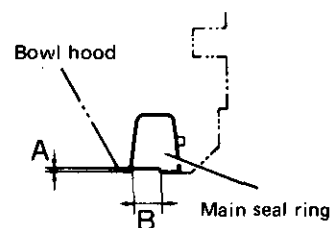

Fig. 7-2
The service life of main seal ring varies with the operating conditions of SELFJECTOR (in particular, sludge discharge interval and properties of sludge). With main seal ring installed on bowl hood, its sealing surface shall be cleaned and carefully inspected. Normally, the packing will be deformed as shown in Fig. 7-2, but if "A" is less than about 0.5 mm, it can be used as it is. On the other hand, when metal powder is entangled in sealing surface and its size exceeds 60% of sealing surface length (B), replace. (It is better not to remove metal powder entangled).